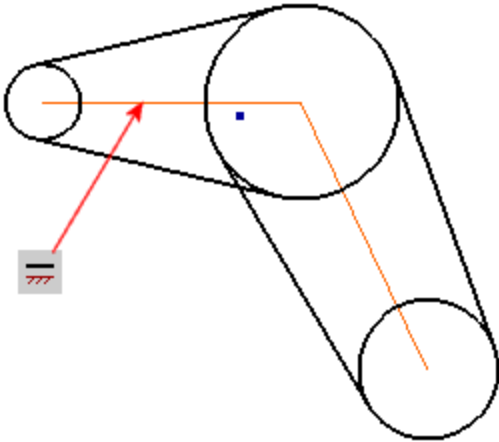

Figure 7: Horizontal constraint added.
5. Click the construction line connecting the two leftmost circles. The sketch should now resemble the one shown in Figure 7.